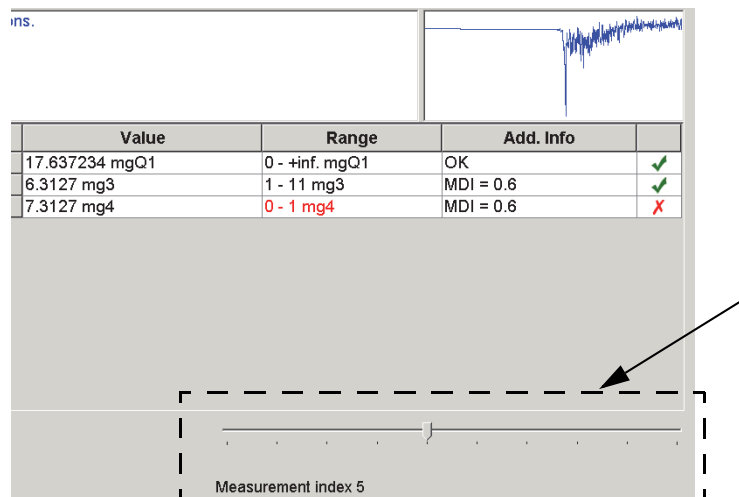

Figure 81: Slider to show single evaluation results
- H) In case of multiple measurements a slider allows to have the QUANT evaluation results shown of each single measurement. Move the slider to the respective position to see the evaluation result. The *Measurement index 5* annotation below the slider in figure 81 means that the fifth evaluation result of a series of 10 measurements is shown in the table.